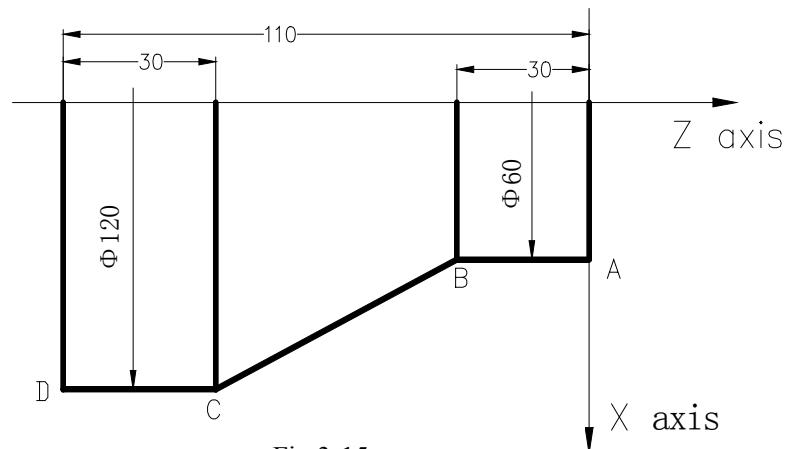

Fig.3-15
**Example: Fig. 3-15, rod  $\Phi 125 \times 110$**